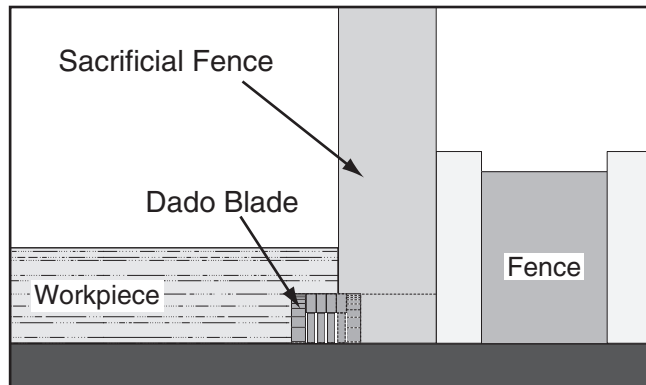

Figure 75. Rabbet cutting with a dado blade.
3. Adjust the fence and align the workpiece to perform the cutting operation as shown in **Figure 75**.